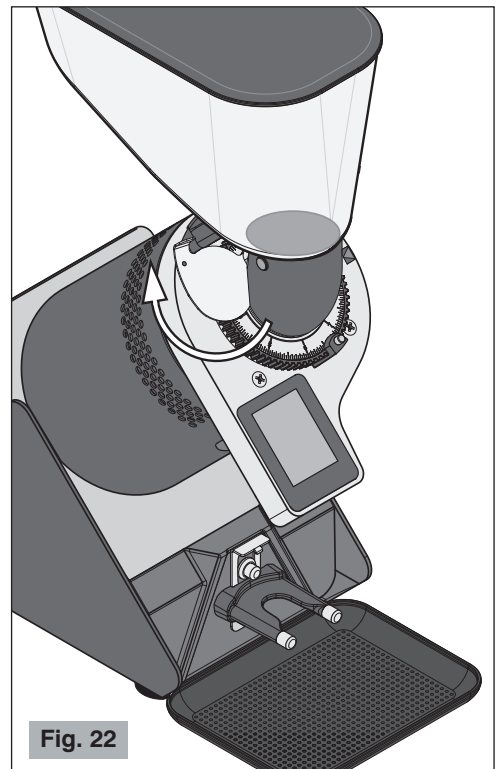

Fig. 22
**!** **Make sure that shutter is fully open to the end of its stroke (see Fig. 22).**